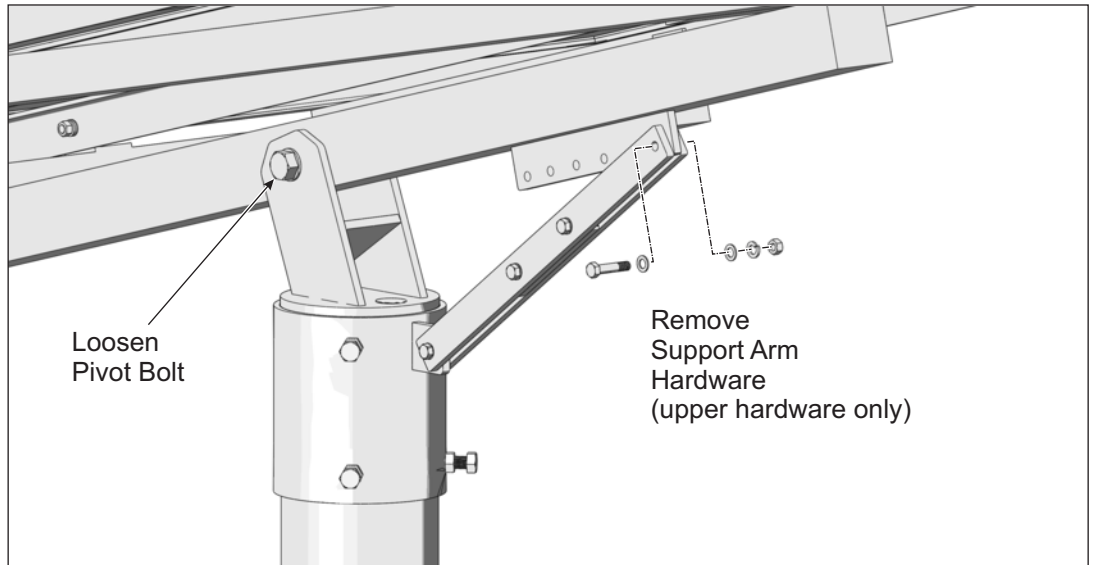

Figure 12-1: Preparing to Adjust the Tilt Angle
- A. While one person holds the south edge of rack, the other loosens the Pivot Bolt and removes the upper 3/8" hardware attaching the Support Bar to the Strongback. (See Figure 12-1)